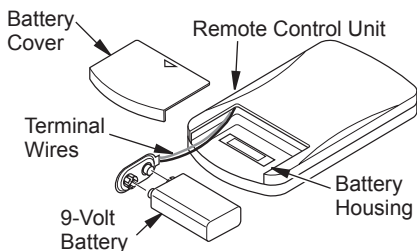

Figure 22 - Installing Battery in Hand-Held Remote Control Unit
1. Remove battery cover on back of remote control unit (see Figure 22).